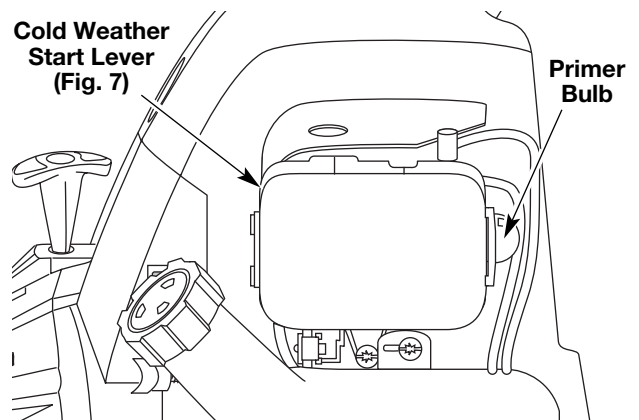

Fig. 10
4. Fully press and release the primer bulb 10 times, slowly. Some amount of **fuel should be visible in the primer bulb** and fuel lines (Fig. 10). If you can't see fuel in the bulb, press and release the bulb as many times as it takes before you can see fuel in it.